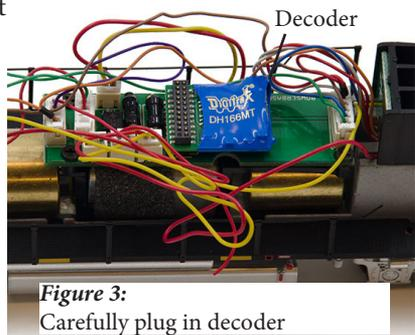

Figure 3: Carefully plug in decoder
- Insert the 21MTC socket onto the exposed pins. The black socket and the decoder text should be facing up. The socket is indexed so it will only fit on in one configuration. **(Figure 3)** Seat the decoder firmly on the pins.